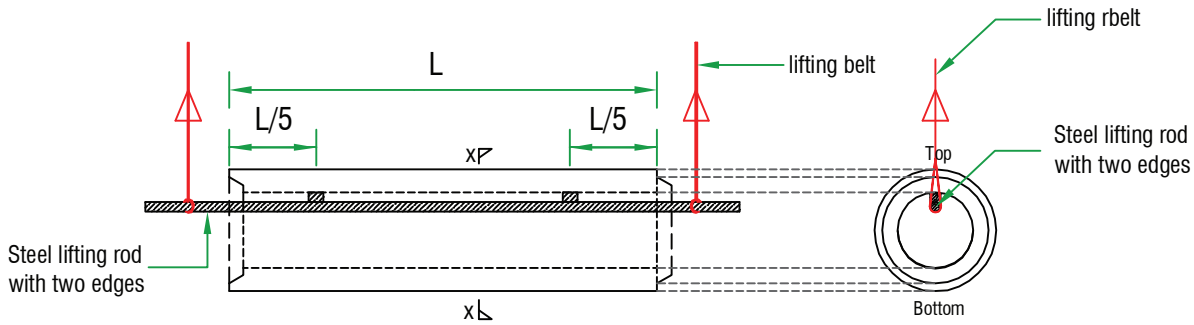

Fig.03 - Correct method for lifting
- 05). Follow the correct method for pipe handling as per Fig. 03,04 to avoid the damages.